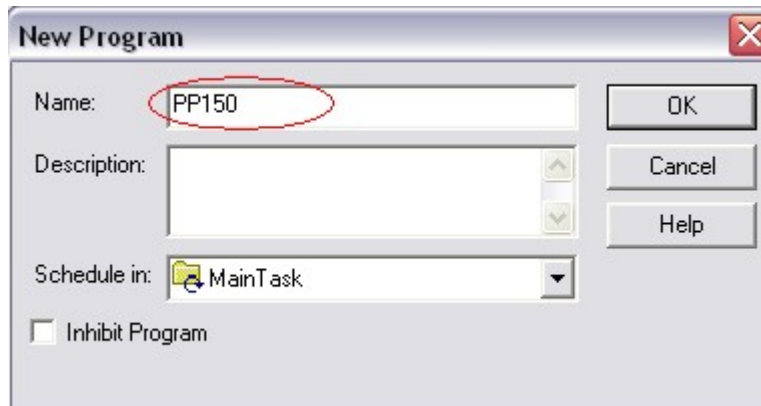

FIGURE 10.9
K. ENTER THE NAME OF THE NEW PROGRAM AS PP150 (SEE EXAMPLE BELOW...FIGURE 10.9)